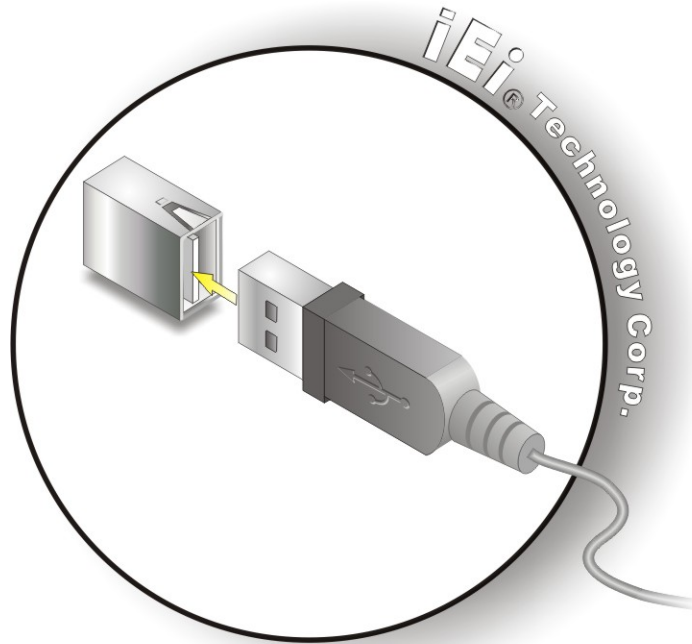

Figure 5-19: USB Device Connection
Step 2: **Align the connectors.** Align the USB device connector with one of the connectors on the PCIE-Q350. See Figure 5-19.